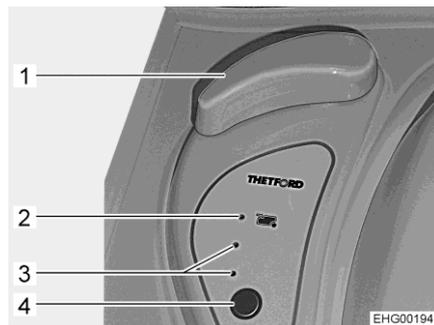

Fig. 163 Operating controls of the toilet
- Turn the rotary handle (Fig. 163,1).
- Turn the rotary handle (Fig. 163,1) back.
- Before flushing open the sliding trap of the Thetford toilet. In order to do this, turn the rotary handle (Fig. 163,1).
- For flushing, press the blue flush button (Fig. 163,4).
- After flushing close the sliding trap. In order to do this, turn the rotary handle (Fig. 163,1) back.
The indicator lamps (Fig. 163,3) show the filling level of the sewage tank. The red indicator lamp (Fig. 163,2) lights up whenever the sewage tank has to be emptied.